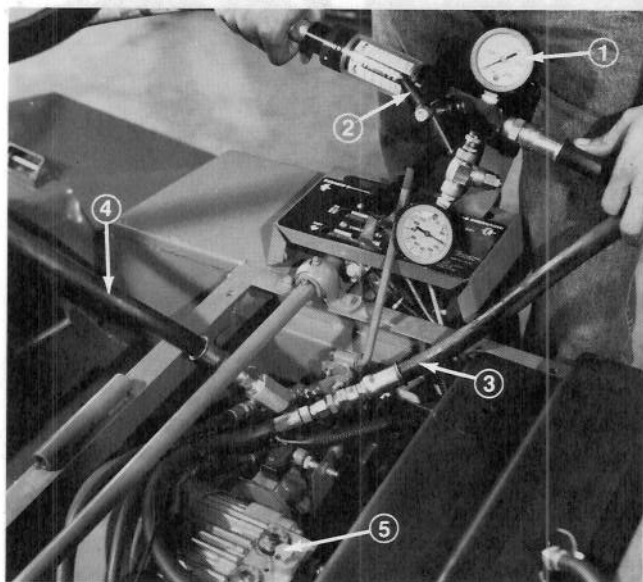

Figure 74
3. Remove seat, seat support cover and seat support and remove line from top of pump housing to lift valve from lift valve fitting (Fig. 74).
4. Install hydraulic inlet hose of test gauge into line from transmission and test gauge return line into lift valve fitting (Fig. 74).
7. Increase engine speed to 3200 rpm - full throttle and watch flow and pressure gauges. Slowly close load valve until flow gauge reads one (1) GPM (0.063 L/s). Pressure reading at one (1) GPM (0.063 L/s) should not be lower than 500 psi (3447.5 kPa). If one (1) GPM or a minimum of 500 psi (3447.5 kPa) cannot be achieved, remove implement relief valve and examine for contamination or broken parts (Fig. 74). If no contamination or damage is evident, add one shim to assembly and repeat test.